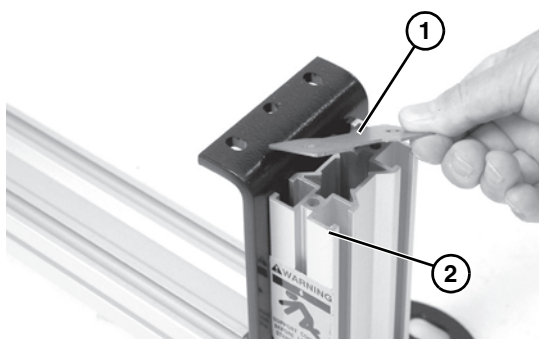

**Figure 8**
**Failure to secure screws (**Figure 8, item 1**) may cause conveyor sections to drop down causing severe injury.**
**TIGHTEN SCREWS (**Figure 8, item 1**) AFTER ADJUSTMENT.**
10. Adjust bracket angle and height. Tighten bracket flange head hex screws (**Figure 8, item 1**). Tighten screws to 150 in-lb (17 N-m).